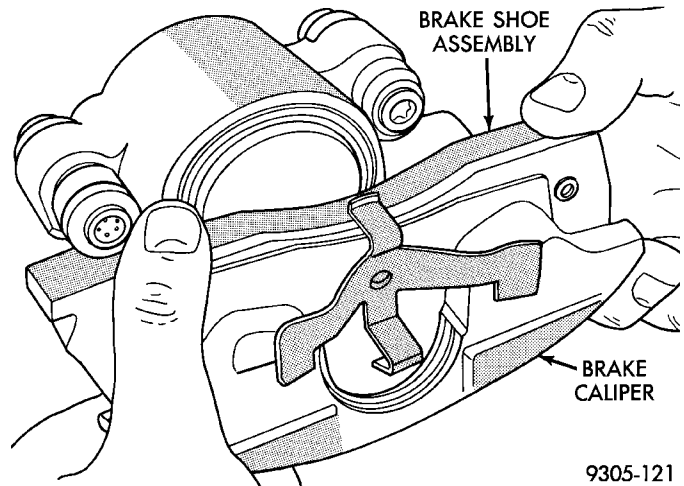

Fig. 66 Installing Outboard Brake Shoe
(6) Slide the new outboard brake shoe onto the caliper (Fig. 66).